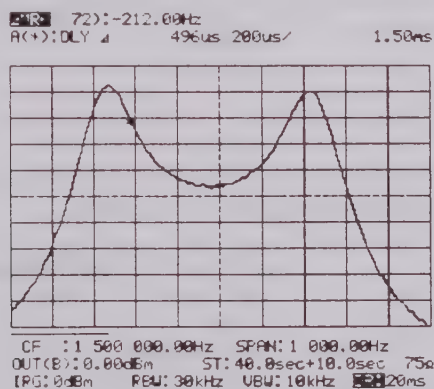

Fig. 3.21 Δ Marker
- 20 Read the measured values on the CRT. Note that, in this mode, the values at each display point on the CRT are not valid. Only the inter-point relative values (frequency response) are effective (Fig. 3.21). For that reason, absolute delay time must be measured in NORMAL mode.